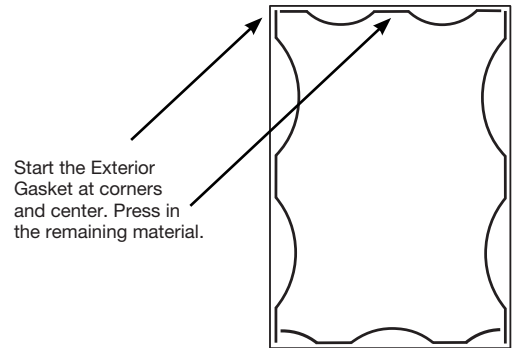

FIG. 4
**Step 6:** Cut the **NP825** Exterior Gasket for all four sides 1/8" (3.2) longer per foot to allow for shrinkage and bevel cut the ends to assure a good seal. Insert each section using **Figure 4** as your guide. Apply **CRL RTV408 Silicone Sealant** to each end of the gasket as it is installed.